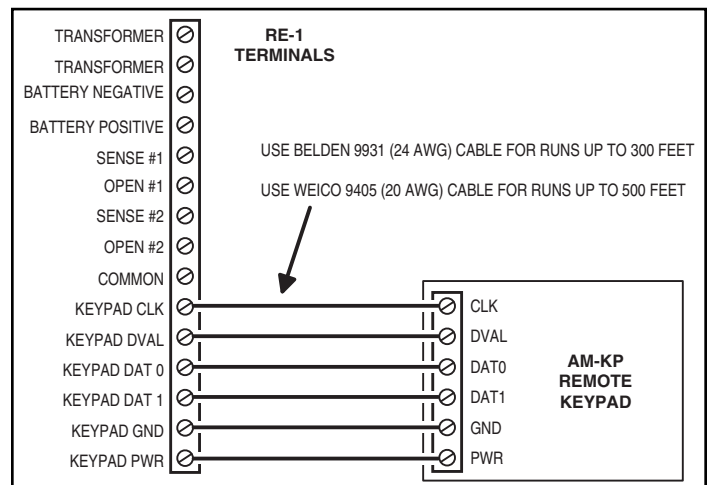

Figure 11. Remote Keypad Wiring
- Connect the 6-conductor cable as shown in Figure 11.